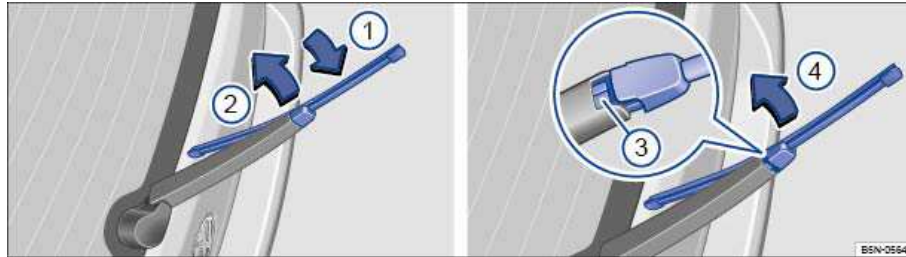

Fig. 177 Changing the rear window wiper blades.
- Pull the release on bracket in the direction of the arrow ⇒ fig. 177 \(1\). This may require a moderate force.
- Fold back the wiper blade in the direction of the arrow (2) this will create a gap between the wiper arm and the latch (3) (magnifying glass).
- Pull the wiper blade to the direction of the vehicle outside (direction of arrow) (4).
- Install a new wiper blade of **same length and type** onto the wiper arm by pushing in the opposite direction of the arrow (4) until it latches.
- Slide the release in the opposite direction of the arrow (3) in order to secure the wiper blade.